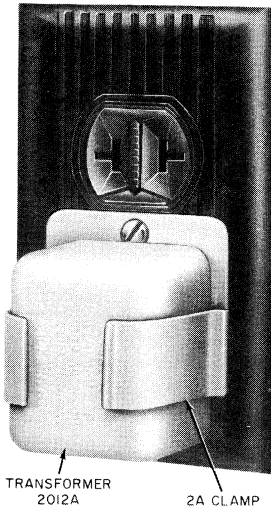

Fig. 1—2A Clamp
**Danger:** For safety, securely attach retaining clamp to ac outlet using outlet cover screw BEFORE attempting to install 2012-type transformer. See Fig. 1. When removing 2012-type transformer always unplug unit completely from outlet BEFORE attempting to remove the retaining clamp. This will prevent the possibility of a loosened retainer clamp or metallic outlet cover making contact with the ac prongs of the 2012-type transformer when partially withdrawn from outlet. Do not use 2A clamp or similar retaining clamp on outlets where cover mounting screw holds the duplex outlet in the box.
**2.01** A 2A clamp may be used to secure the 2012-type transformer to a standard electrical service outlet (Fig. 1) in those locations where the transformer is subject to being accidentally dislodged from the receptacle.